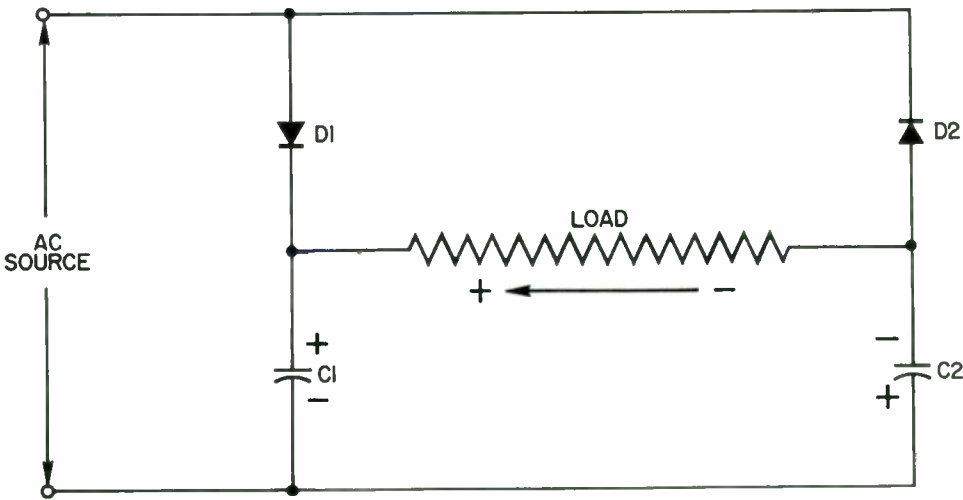

Figure 17 - Full-wave voltage doubler.
17. Actually, this connection is equivalent to connecting a pair of half-wave rectifiers across the voltage source so that the direction of their conducting paths will be opposite to each other. As a full-wave rectifier, this circuit draws current from the voltage source during both halves of the input cycle. For one half cycle, C1 charges to the source voltage through rectifier D1, and for the next half cycle C2 charges to the source voltage through rectifier D2. The voltage impressed across C1 and C2 will combine in series across the load to give the polarity and current flow indicated in Figure 17.